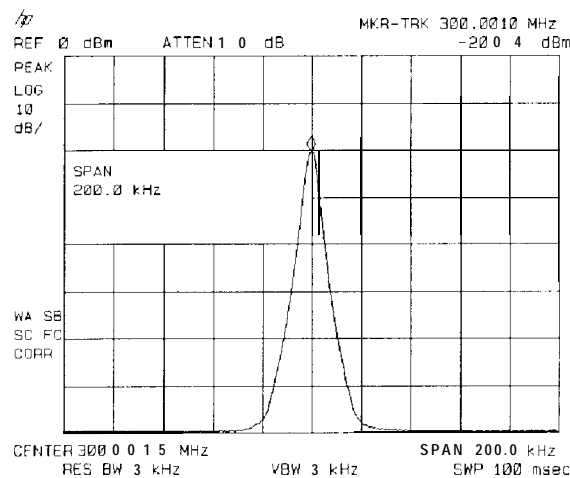

Figure 3-7. After Zooming In on the Signal
2. Press (**MKR FCTN**), MKR TRACK ON OFF (ON) and the signal will move to the center of the screen, if it is not already positioned there (note that the marker must be on the signal). Because the marker track function automatically maintains the signal at the center of the screen, you can reduce the span quickly for a closer look. If the signal drifts off of the screen as you decrease the span, use a wider frequency span.
3. Press (**SPAN**), 200 (**kHz**). The span decreases in steps as automatic zoom is completed. See Figure 3-7. You can also use the knob or step keys to decrease the span or use the PEAK ZOOM function under (**SPAN**).